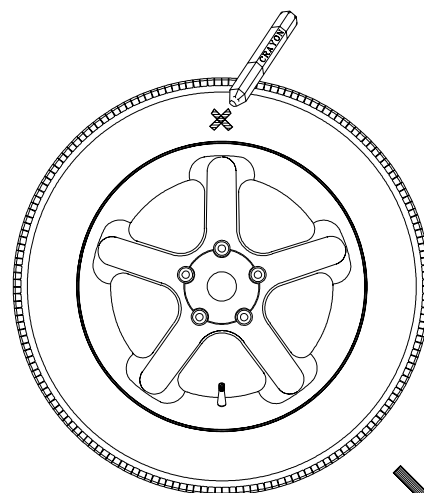

Figure 26 - Step 2, valve at bottom, mark top of tire with X, press "P"
(1) The operator should turn the wheel and mark an X at the 12 o'clock when the valve is at the 6 o'clock position. *Figure 26*